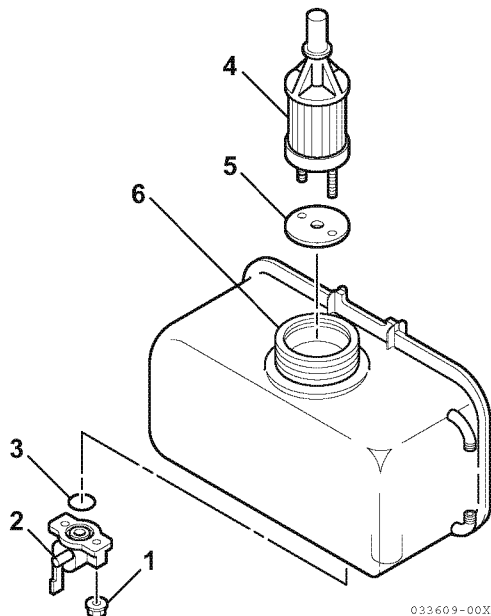

Figure 10
4. Loosen the fuel cock nuts (1, **Figure 10**) on either side of the fuel cock (2, **Figure 10**).
5. Remove and discard the O-ring (3, **Figure 10**).
6. Pull the outlet fuel filter (4, **Figure 10**) and gasket (5, **Figure 10**) out of the fuel tank filler port (6, **Figure 10**).
7. Install a new outlet fuel filter (4, **Figure 10**) and gasket (5, **Figure 10**) through the fuel tank filler port (6, **Figure 10**) and seat in the fuel tank.
8. Install a new O-ring (3, **Figure 10**) on the fuel cock (2, **Figure 10**) and fasten the assembly to the fuel tank using the fuel cock nuts (1, **Figure 10**).